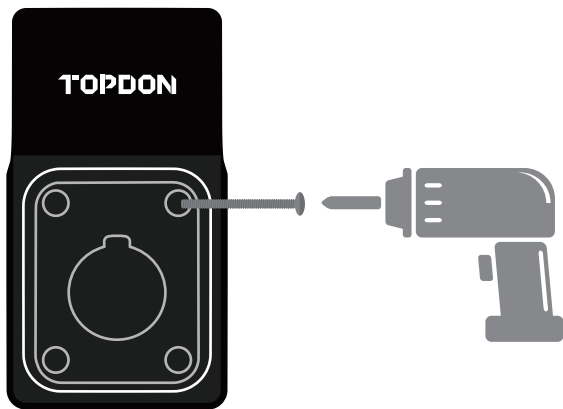

Fig. 4-23
5. Fix the cable holder on the wall with the expansion screws. (See Fig. 4-23)